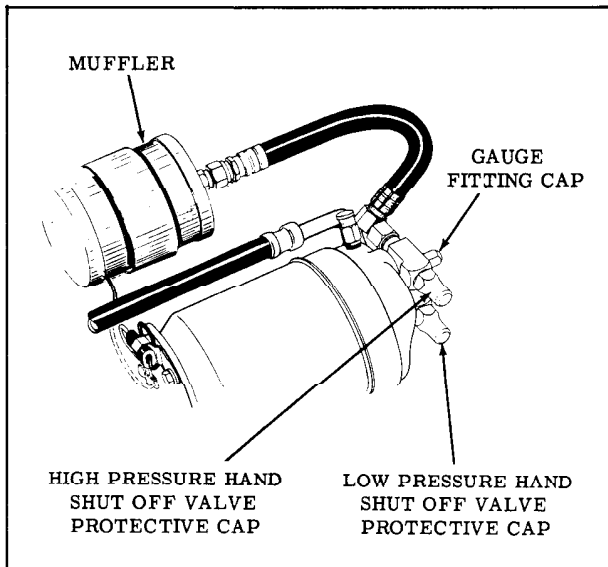

Fig. 14-28 Shut-Off Valves
1. With the engine stopped, remove protective caps from compressor high and low pressure hand shut off valves. (Fig. 14-28)